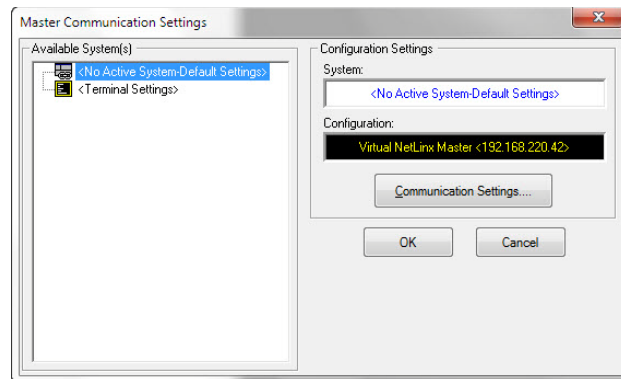

FIG. 26 Master Communications Settings dialog box
1. Launch NetLinx Studio and select **Settings > Master Communication Settings** from the Main menu to open the *Master Communication Settings* dialog (FIG. 26)